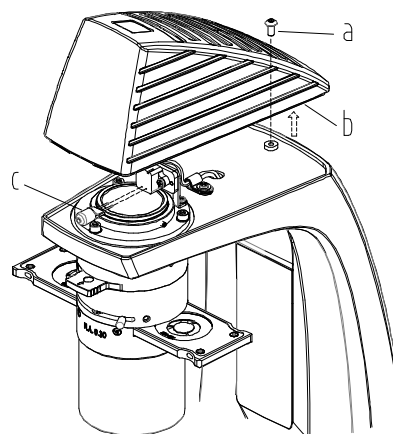

Fig.2 Replace Bulb
2. Before replacing the lamp, first turn off power switch at off position **O**, and unplug it in case of electric shock and burn. If microscope is in use or after use, the bulb and lamp house must be cooled off completely before proceeding, please see **Fig.2**, Loosening screw and replace bad bulb with required bulb. The power supply must be cut off before bulb replacement.